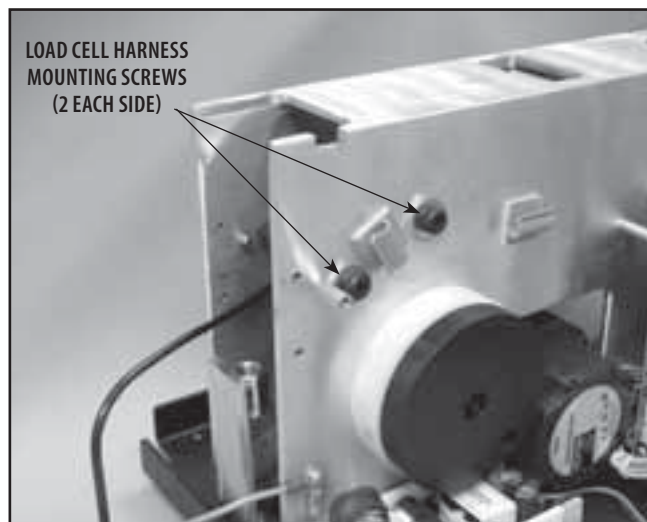

FIGURE 6.22
6. Using the 4 mm Hex Key Socket and Ratchet, remove the two Load Cell Mounting Screws and Flat Washers from each side of the Chassis. See Figure 6.22.